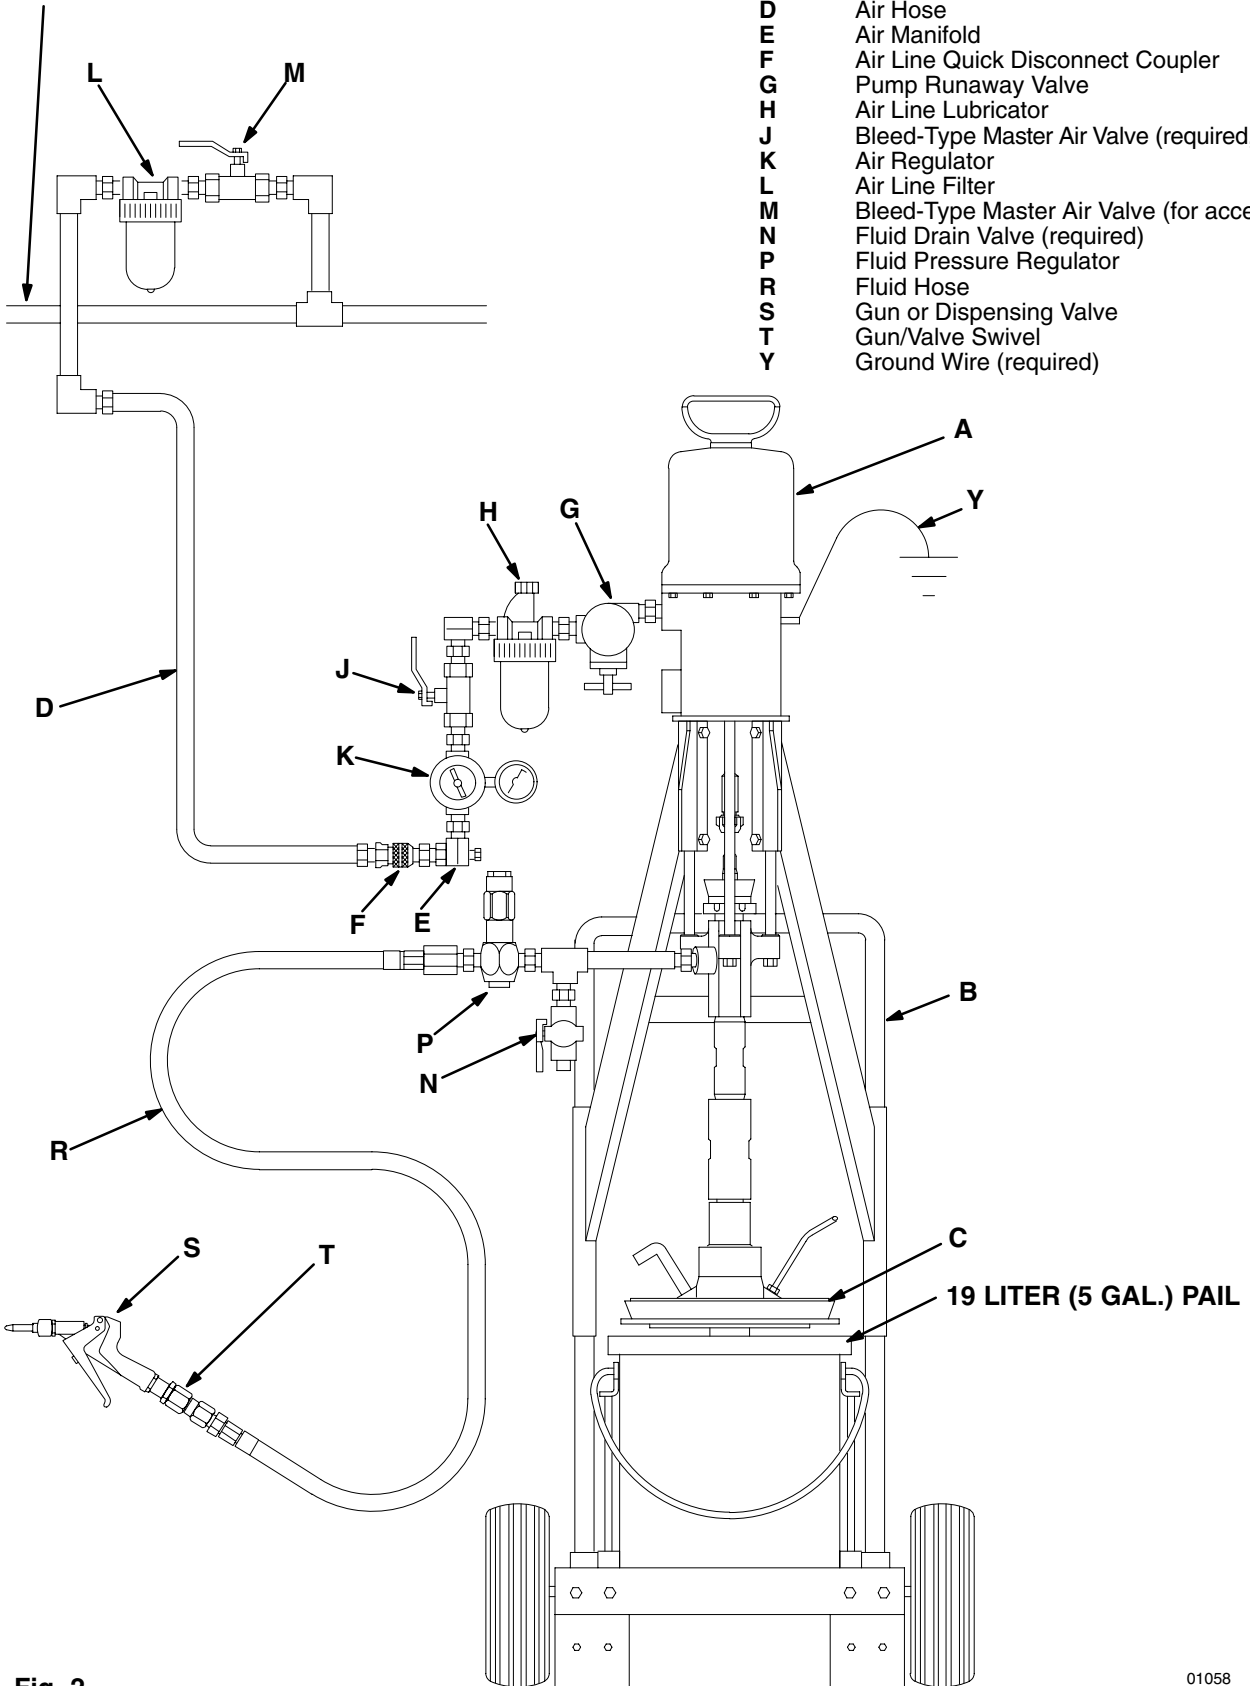

Fig. 2
Fig. 2 is only a guide for selecting and installing system components and accessories. Contact your Graco distributor for assistance in designing a system to suit your particular needs.
Install the following accessories as shown in Fig. 2, using adapters as necessary:
Install the following accessories in the positions shown in Fig. 2, using adapters as necessary:
Do not allow the pump to run dry. It will quickly accelerate to a high speed, causing damage. A pump runaway valve (G), which shuts off the air supply to the pump if the pump accelerates beyond the pre-set speed, is available. See the Typical Installation in Fig. 2. If your pump accelerates quickly, or is running too fast, stop it immediately and check the fluid supply. If the supply container is empty and air has been pumped into the lines, refill the container and prime the pump and the lines with fluid, or flush and leave it filled with a compatible solvent. Be sure to eliminate all air from the fluid system.